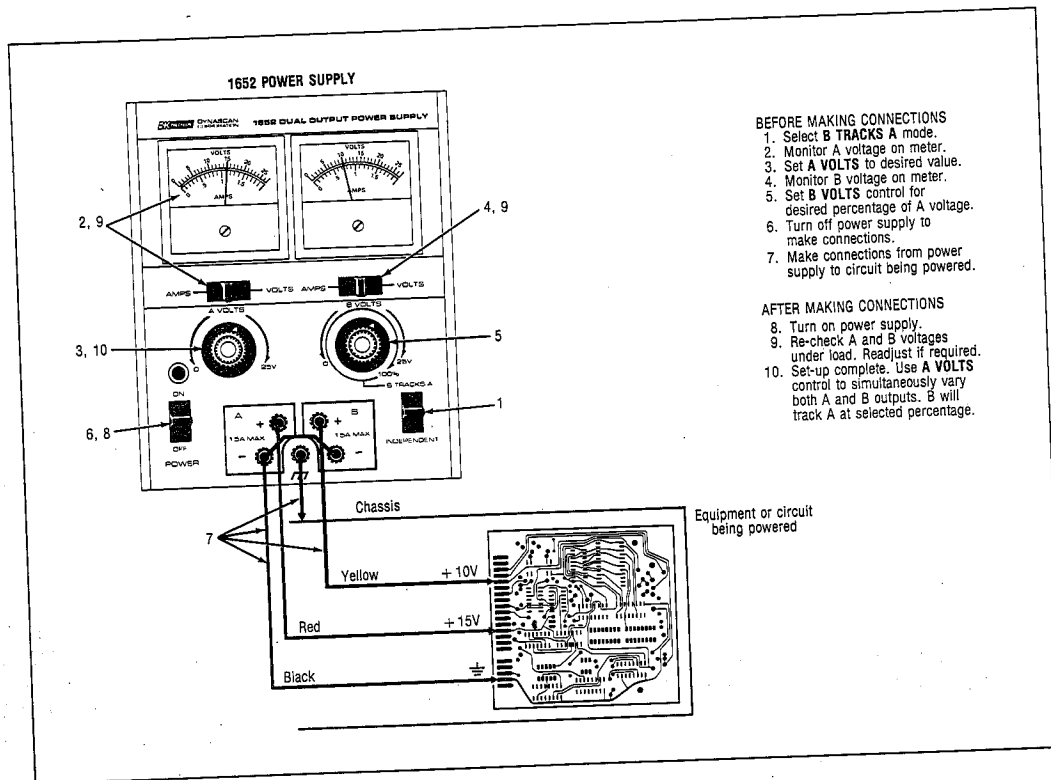

Fig. 8. Set-Up Procedure for Tracking Mode.
(Refer to Fig. 8)
7. Make connections between the supplies and the circuit being powered. Connections are the same as previously described for independent operation. Figs. 8 and 9 show some typical examples.
commonly derived voltages such as shown in Fig. 8. Tracking allows both voltages to be simultaneously varied the same percentage, which accurately simulates a fluctuation of the circuit's normal power source.